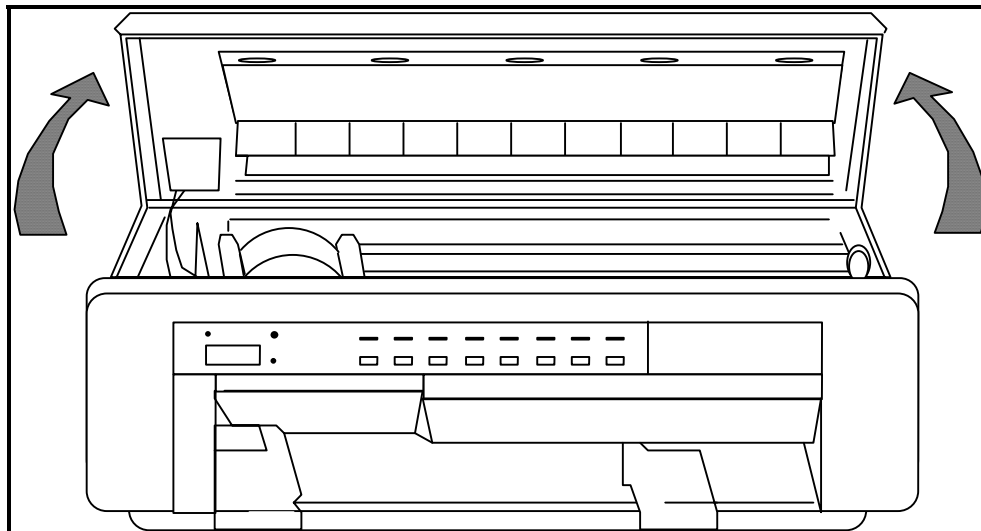

Figure 18-3 — Printer Front Cover 1737
- Step 1. Raise the front cover (Figure 18-3).